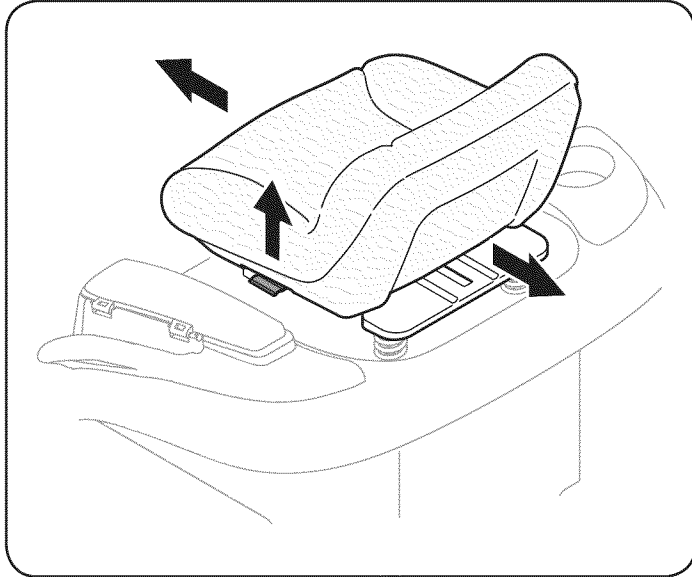

Figure 9
To adjust the position of the seat, pull up and hold the seat adjustment lever. Slide the seat forward or rearward to the desired position; then release the adjustment lever. Make sure seat is locked into position before operating the riding mower. See Figure 9.
4. Remove the oil filler cap/dipstick. If the level is low, slowly add oil until oil level registers between FULL and ADD, Figure 9.